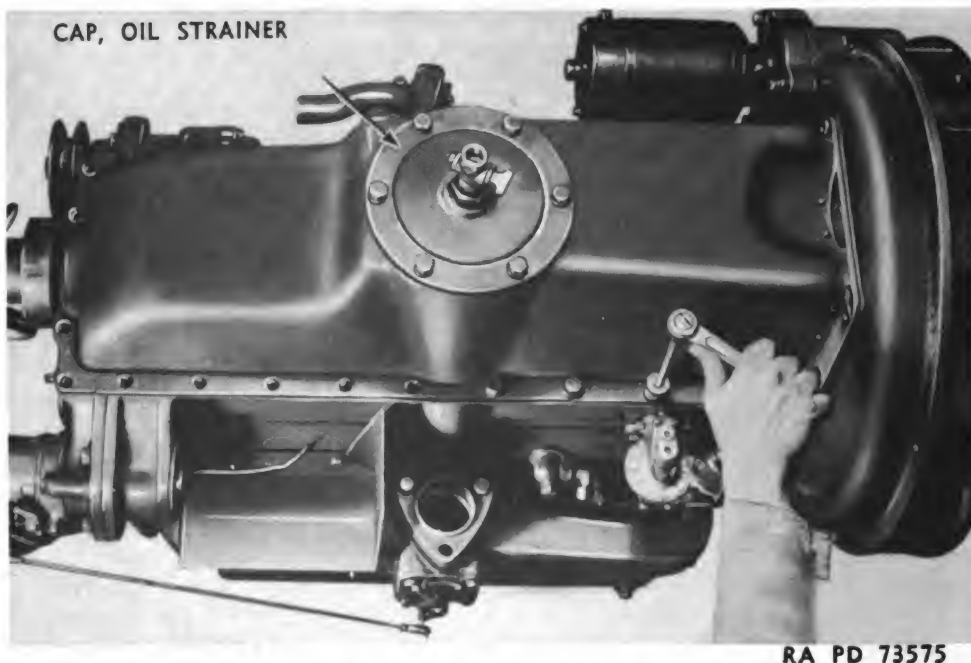

Figure 126 — Oil Pan Removal
- (1) Block unit up, high enough to remove oil pan.
- (2) Remove oil pan (par. 22 a (9)) (fig. 126).